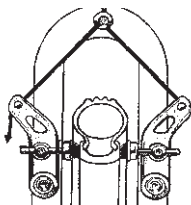

Fig. 1
- The braking surfaces must be clean and free of grease, and the brake covers must be parallel to each other (refer to Fig 1).